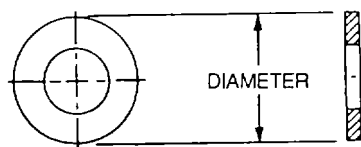

Figure 2-29. Plain Washer
a. Plain Washers. The AN960 plain washer, as shown in figure 2-29, is used under AN hexagon nuts to provide a smooth bearing surface. It acts as a shim in obtaining the correct relationship between the threads of the bolt and the nut. It will adjust the position of castellated nuts with respect to drilled cotter pin holes in bolts.
(1) Uses The general rule is to use one washer under each nut. However, if one washer falls to cover the underthread grip or fails to place the nut in the proper position for cotter pins, then one more washer may be added. If more than two washers are needed, the bolt length should be changed. Other use criteria are as follows.